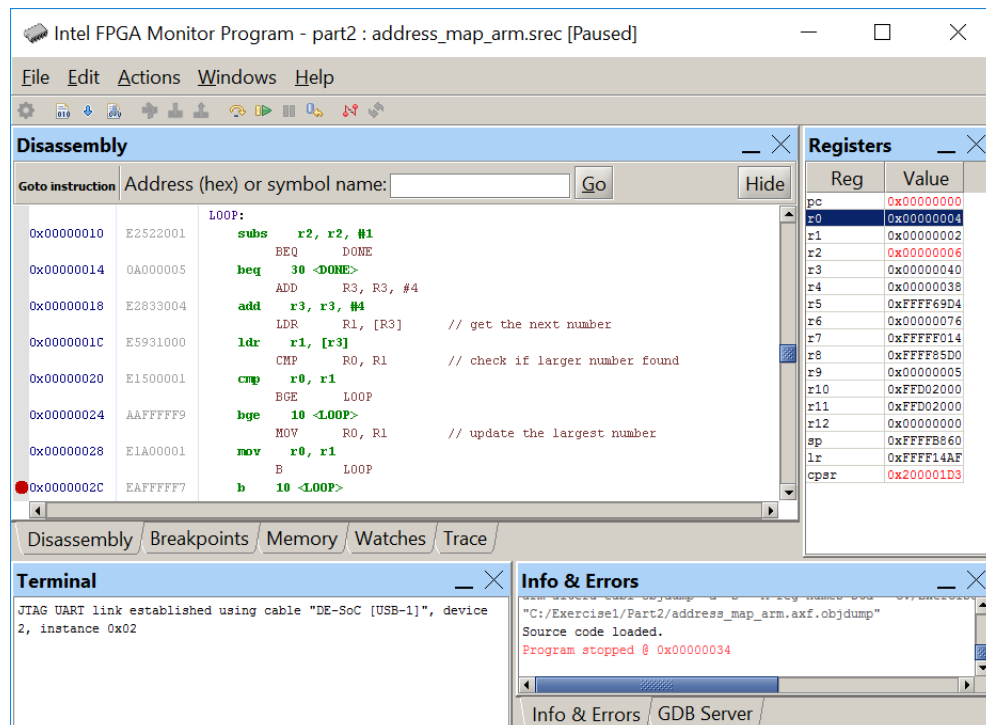

Figure 23: Setting a breakpoint.
7. Now set a breakpoint at address 0x0000002C by clicking on the gray bar to the left of this address, as illustrated in Figure 23. Restart the program and run it again. Observe the contents of register R0 each time the instruction at the breakpoint, which is **B LOOP**, is reached.